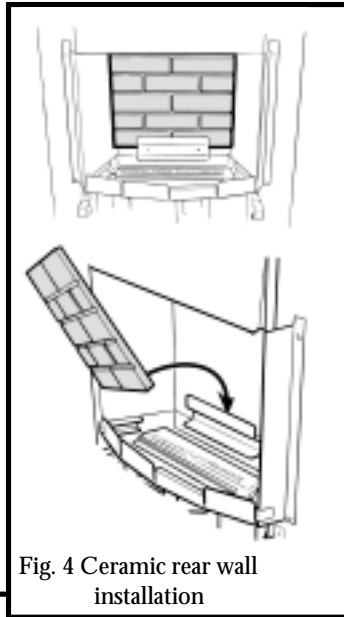

Fig. 4 Ceramic rear wall installation
1. With its feather edge at the top, place the ceramic rear wall into the channel at the back of the fire box. Push the wall flat against the rear of the fire box. (See figure 4).